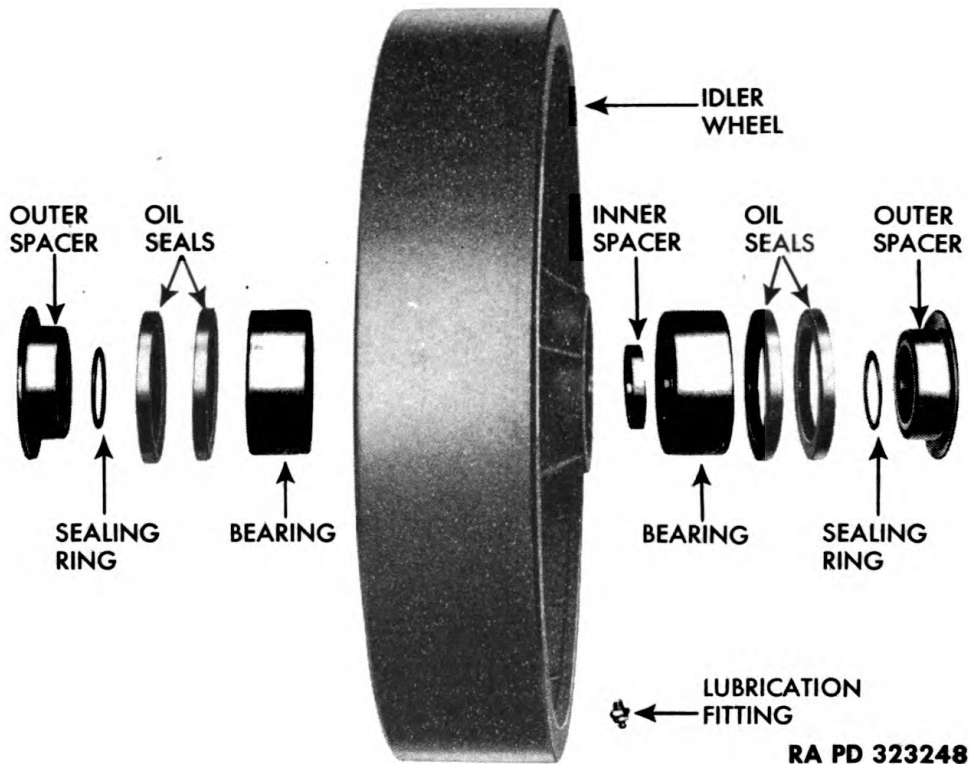

Figure 254 — Trailing Idler Wheel Disassembled
(1) **CLEAN BEARINGS.** Thoroughly clean each bearing as described in paragraph 112, a (1).
b. **Inspect and Repair** (figs. 254 and 255).